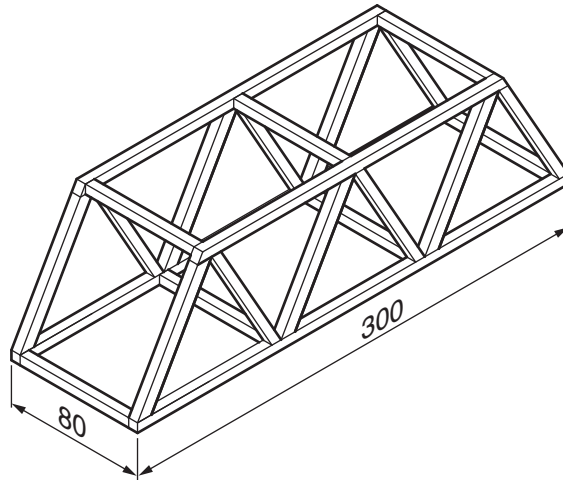

Fig. 6
- 9 (a) Fig. 6 shows a model truss bridge that has been made in a school to span a 270 mm gap.